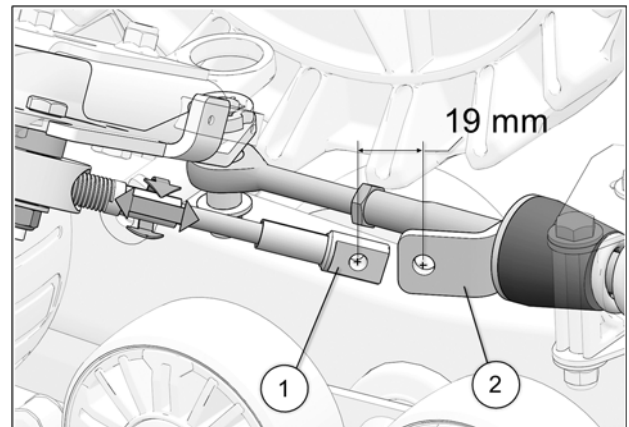

Fig. 25
15. Turn the vehicle's steering wheel to its maximum point of travel on the left. While maintaining pressure on the steering wheel, turn threaded rod to adjust length of cable. See Fig. 25
16. Position cable end hole (1), 19 mm [$\frac{3}{4}$ in.] short of support plate (2) mounting hole. See Fig. 25